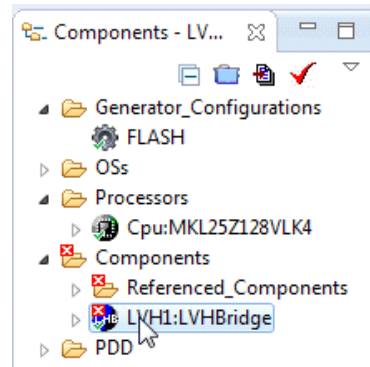

Figure 14. Select the component
2. Double click LVHBridge component in the **Components** window (see Figure 14) to show the configuration in the **Component Inspector** view.